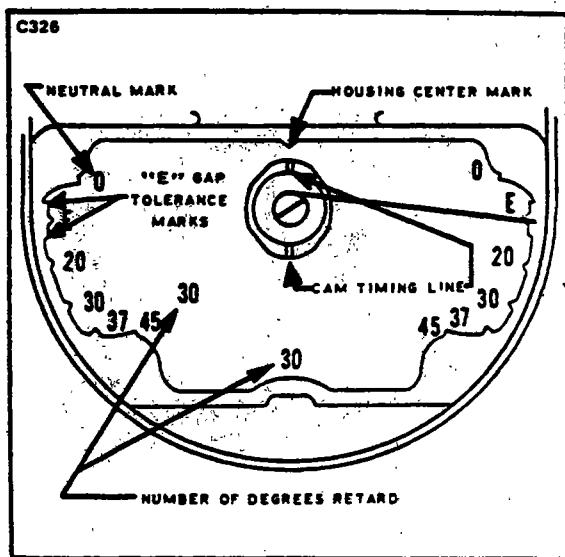

Figure 8-19. Breaker Compartment
e. If magneto is type which has "cast in" timing marks (-200 series, see Figure 8-19), main breaker may be adjusted with magneto on engine as follows: turn engine crankshaft until notch in cam is aligned with mark at top of breaker compartment. Set wire pointer in center of the "E" gap boss at the side of breaker compartment. Connect timing light across main breaker. Adjust main breaker contacts to open at this point. Turn engine crankshaft until cam follower is on the high point of the cam lobe. Measure contact clearance. It must be .018 \pm .006. If necessary, readjust breaker and recheck to be sure that contacts will open within "E" gap tolerance \pm 4 degrees. (Width of "E" gap boss.)